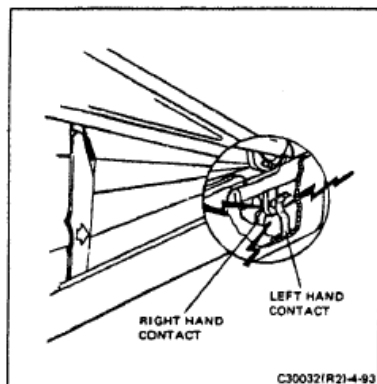

FIGURE 4-93 SWITCH S6 DETAILS
- a. Unsolder and disconnect the two S6 contacts (Figure 4-93) from the flex circuit. (These contacts are also identified in Figure 4-88.)